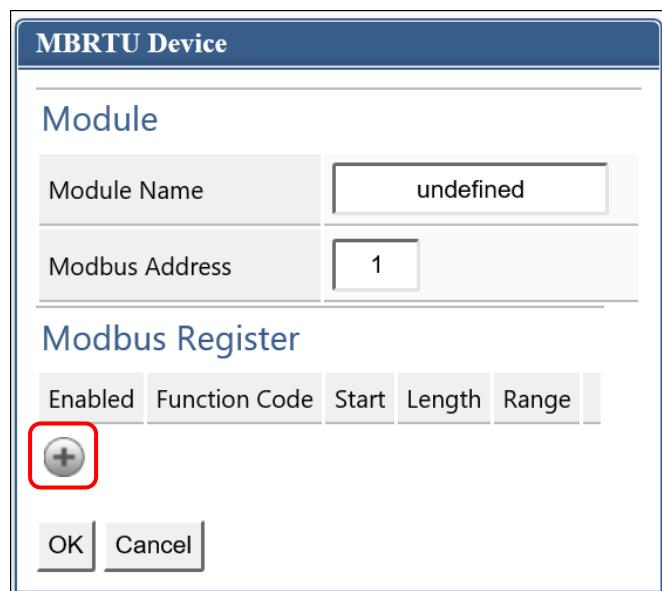

Figure 2.10 Add Modbus RTU Slave Module/Register window
**Step2** Following the Figure 2.10, click the icon "  " at the bottom of Modbus RTU Slave module to add a Modbus RTU Register, and set the Modbus Function Code, Start address, Length and Range of the Register.